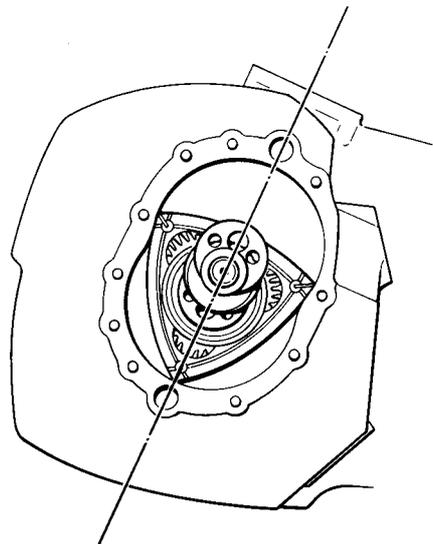
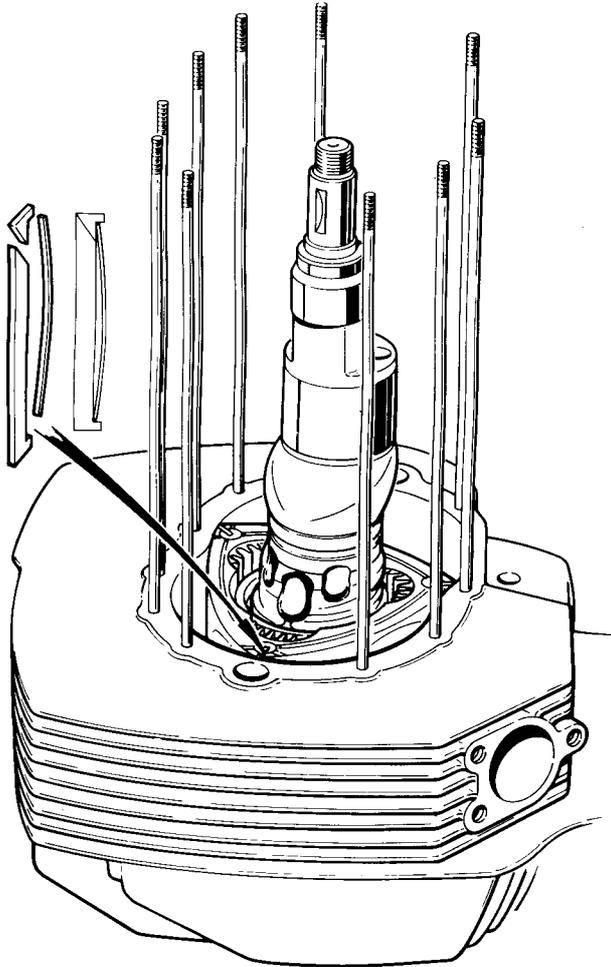

Fig. B34. Positioning the first rotor and eccentric shaft.
Fig. B35. Fitting the apex seals, seal springs and apex seal corner pieces
Lubricate the right end plate running surface with engine oil. The rotor shaft and rotor should now be inserted (gear side down) through the roller bearing to engage the stationary gear, with the shaft centre cooling dowel holes aligned with the rotor apex and the top dowel hole as shown in Fig B34
Smear the mating surfaces of the right end plate and right rotor housing with the recommended jointing compound and fit the housing in place on the studs. Re-fit the top and bottom locating dowels in the rotor housing (if removed). Turn the rotor shaft through 90° to facilitate the subsequent assembly of the intermediate plate and fit the apex seals and seal springs with the convex face towards the centre of the rotor (ie. the ends of the spring should contact the ends of the apex seal – see Fig B35), and slide into position between the rotor slot and the apex seals. Finally position the apex seal corner pieces. Push the apex seal corner pieces home, as these will be held in place by apex seal spring pressure. Smear jointing compound onto the intermediate plate joint face, lubricate the intermediate plate running surface with engine oil and set the throttle levers pointing to the top of the engine (to clear the oil pipes). Assemble the plate over the studs, ensuring the two location dowels are fully engaged, checking all seals are in position before finally pushing home the intermediate plate. Rotate the rotor shaft through a further 90° to align the centre air passage with the bottom dowel. Carefully offer up and assemble the second rotor (LH) gear side uppermost to the eccentric shaft, with one of the apex slots aligned to the lower dowel centre line, in a similar manner to that indicated in Fig B34.
Check the rotor side seals are still located correctly in the grooves, and assemble the apex seals (again as shown in Fig B35). Slide the seal springs into position with the convex side towards the rotor. Fit the seal corner pieces, pushing them home and closing the assembly by pressing the seal pins against their seal springs. Apply jointing compound to the mating surfaces and having lubricated the intermediate and end plate running surfaces, refit the LH end plate. Fit the spacers over the end plate studs (all but top two). Fit the nuts and torque load to 10lbs/ft. (1.4 KgM).